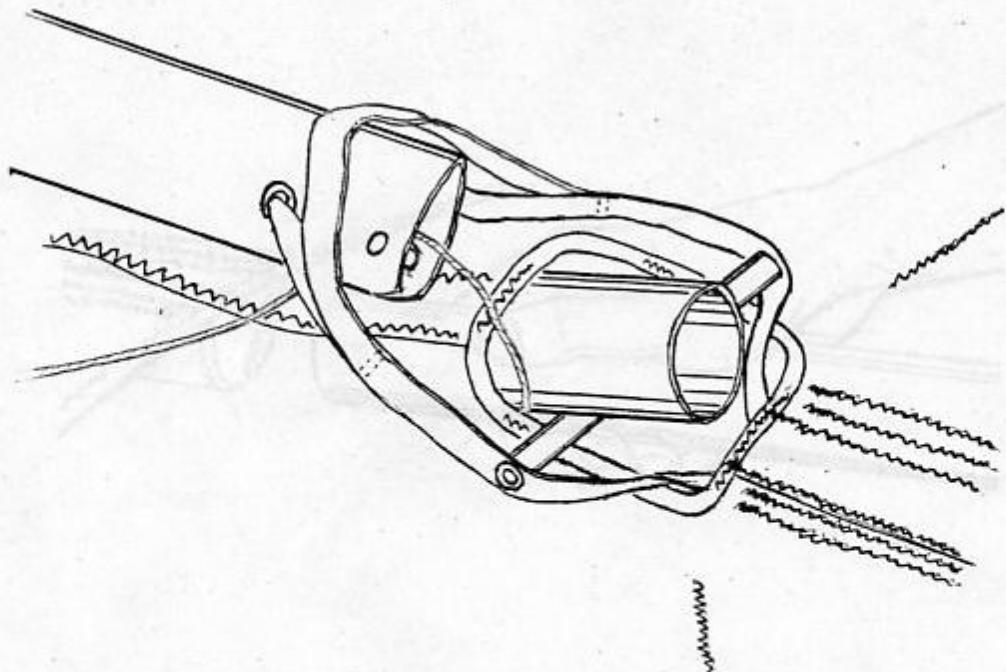

Fig. 3.1.15.
10. Put the hang-strap which is on the kingpost through the kingpost hole in the sail and fit it over the end of N1 keel tube. Put the rope of the compensator through the kingpost hole of the sail (Fig. 3.1.15).